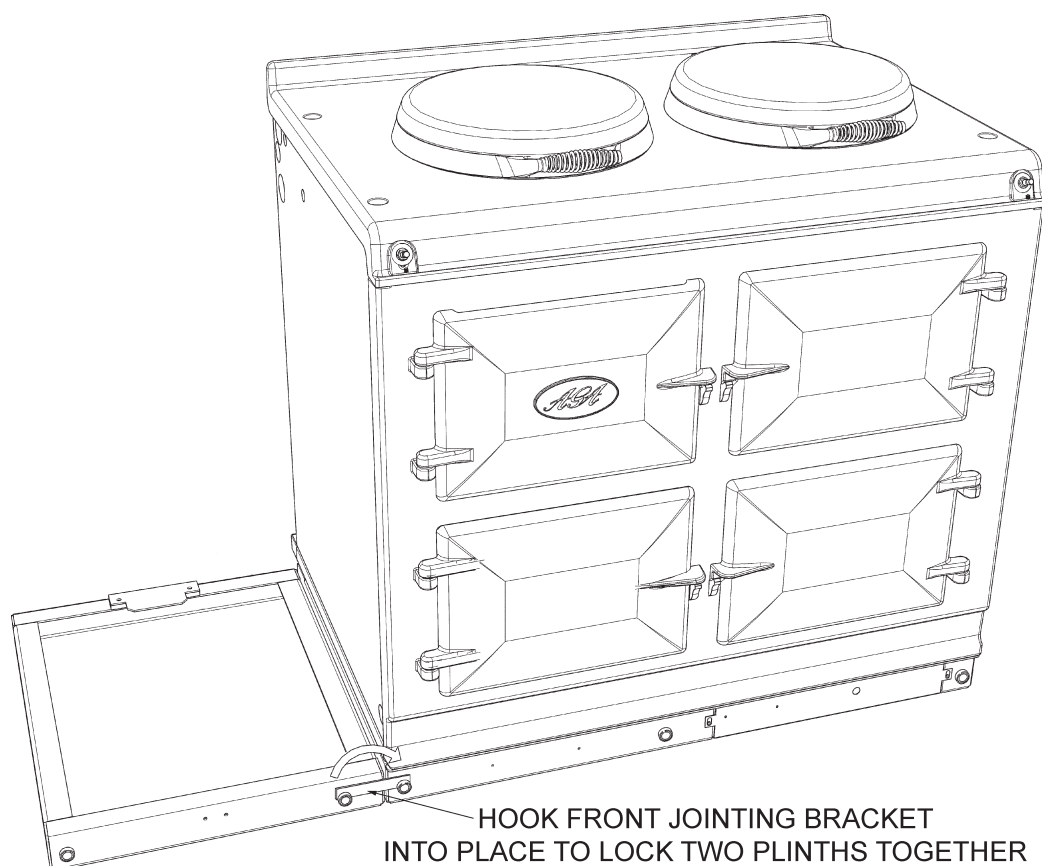

Fig. 12
5. Front jointing bracket can now be hooked into place over the two pot magnets. This will latch the two plinths together. (See Fig. 12)